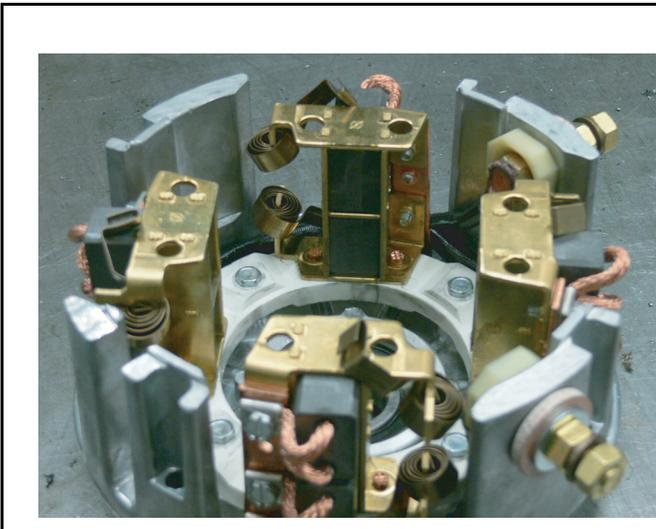

Figure 27-14 Retracted Brushes
- 2.5. One at a time, push the brushes back until they are completely retracted into their mounting slots (**Figure 27-14, Page 27-12**).